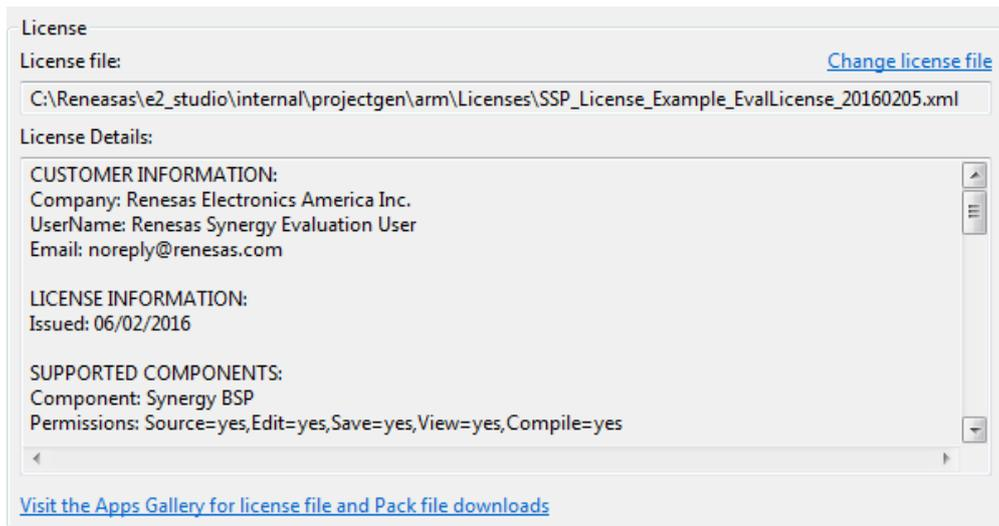

Figure 5 Configured License File
- 9. If the License file is configured, the License area of the form will look like Figure 5. If it does, skip to step 10. If it is empty, continue with the below steps (A to G).